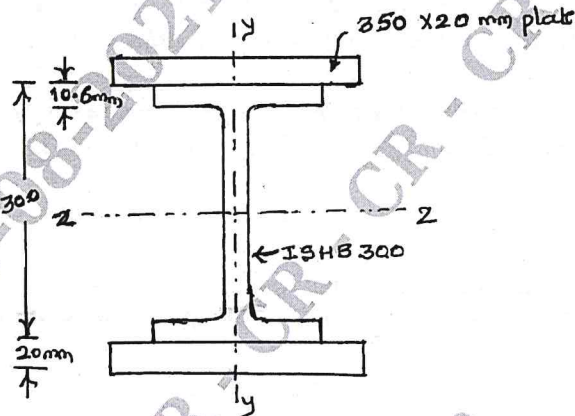

Fig.Q6
- 6 Calculate the compressive resistance of a compound column consisting of ISHB 300 with one cover plate of 350×20 mm on each flange and having a length of 5m. Assume, that the bottom of the column is fixed and top is rotation fixed, translation free and $f_y = 250$ MPa. Refer Fig.Q6.